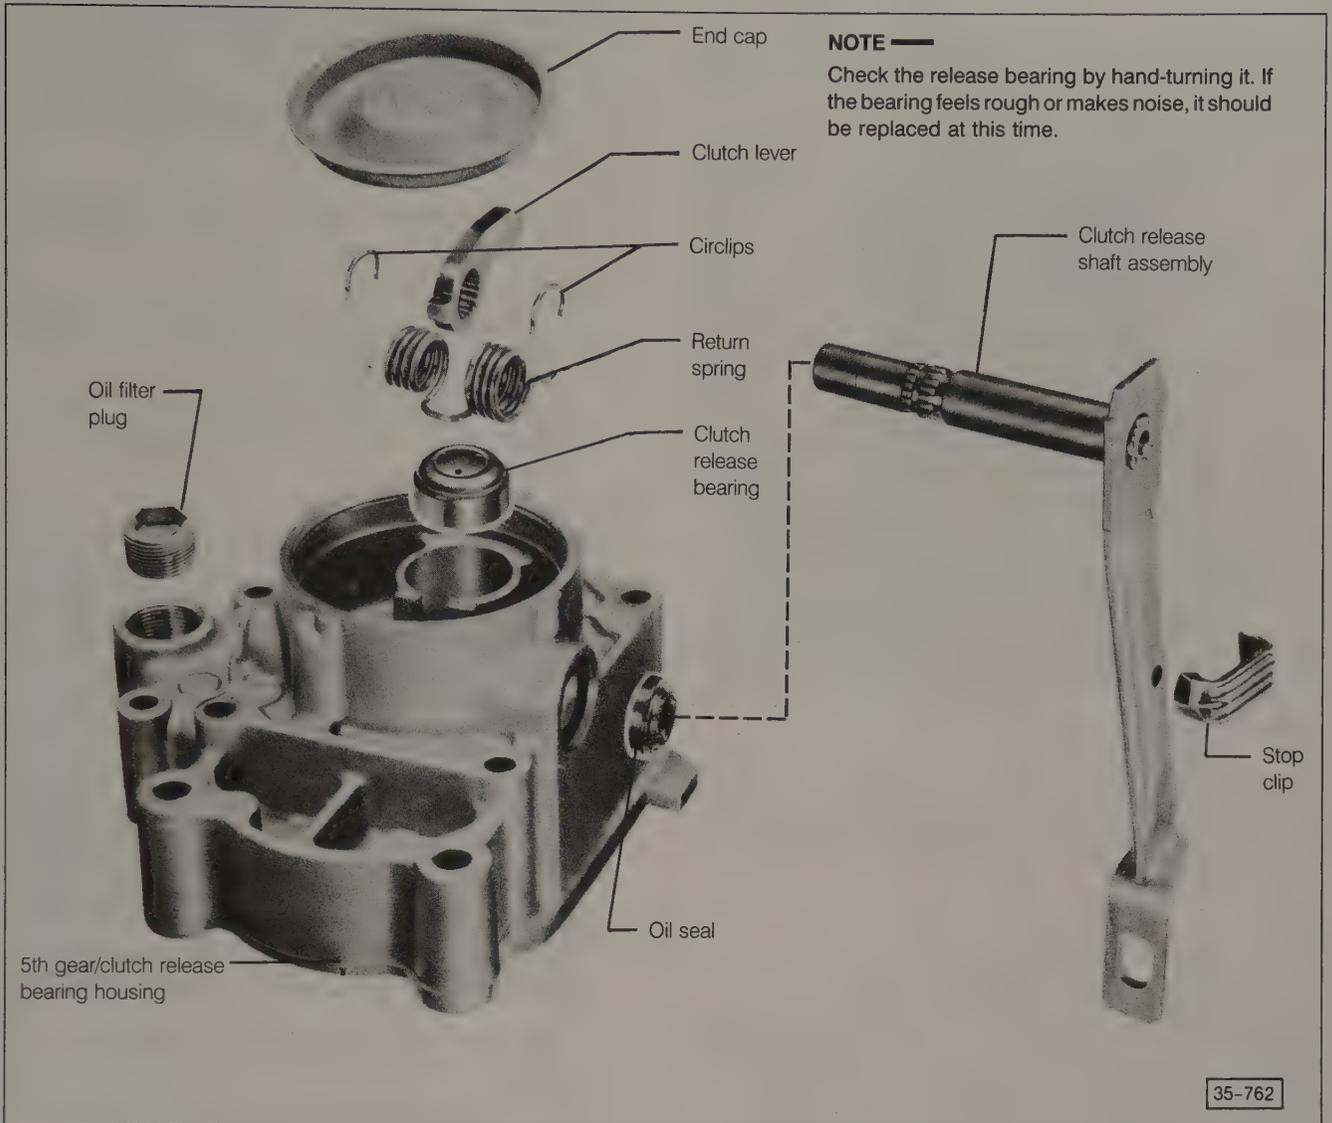

Fig. 6-10. Exploded view of clutch release mechanism.
- Pierce the end cap and pry the cap out of its recess in the 5th gear/clutch release bearing housing. See Fig. 6-10.